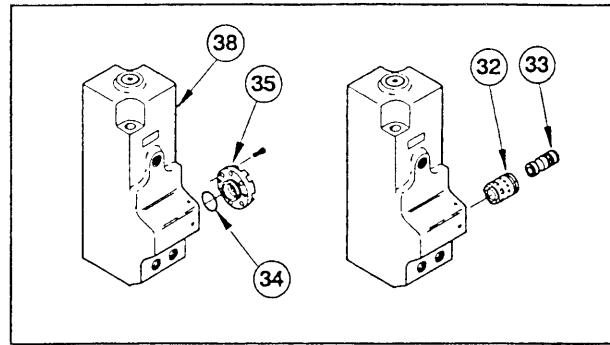

Figure 4.
2. Remove the retaining rings (44) from the head of each side plate bolt (46) and then remove the lockplates (45).
4. Remove the protective plug from the charge valve (37) using a 3/16 inch hex wrench. Release the nitrogen charge by depressing the charge valve poppet with a #2 Phillips screwdriver or other appropriate blunt tool. Loosen and remove the charge valve.
5. Unscrew and remove 6 capscrews (36). Remove the valve cap (35) and discard the o-ring (34). See figure 4.